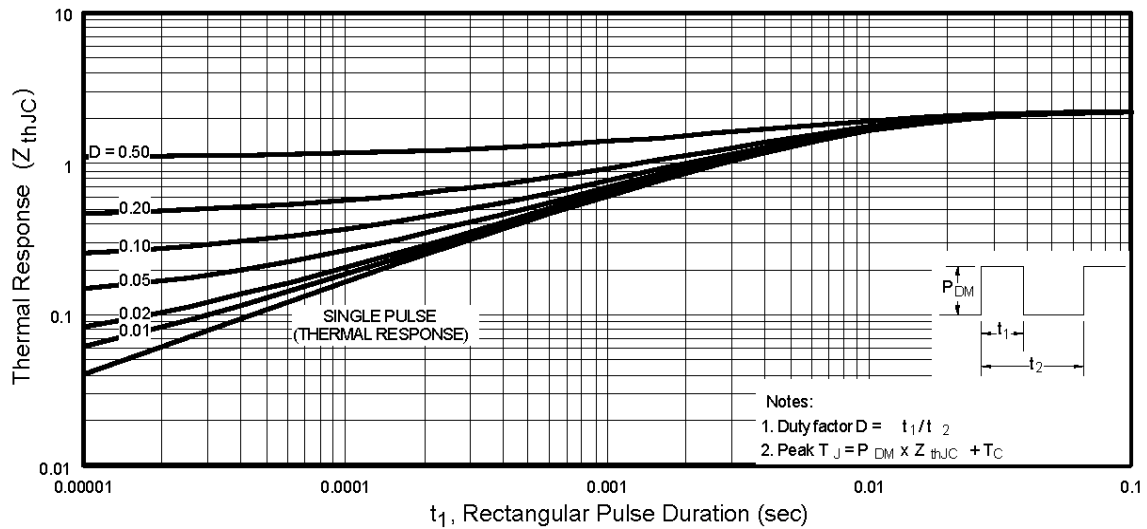

Fig 11. Maximum Effective Transient Thermal Impedance, Junction-to-Case
① Repetitive rating; pulse width limited by max. junction temperature. (See fig. 11)
② Starting $T_J = 25^\circ\text{C}$, $L = 3.2mH$